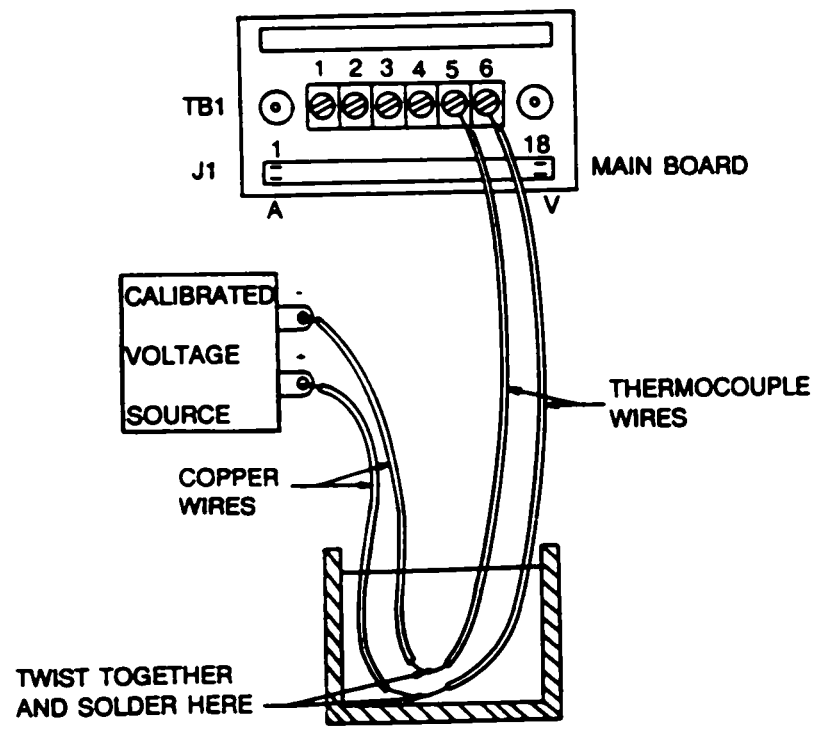

Figure 6-1 Ice Bath Calibration Setup
1. Connect test cables as shown in^o Figure 6-1.